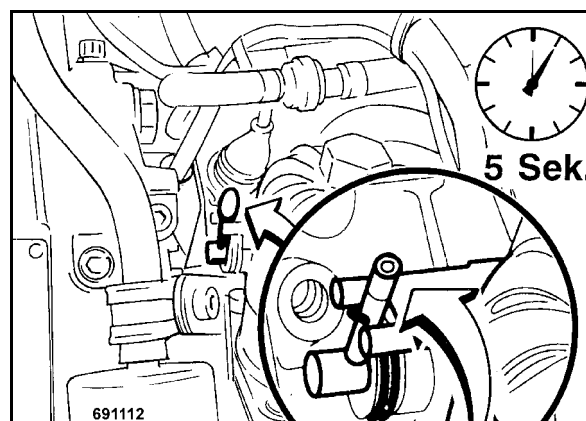

Fig. 18
- Press the hand lever (Fig. 18) for approx. five seconds against the spring.